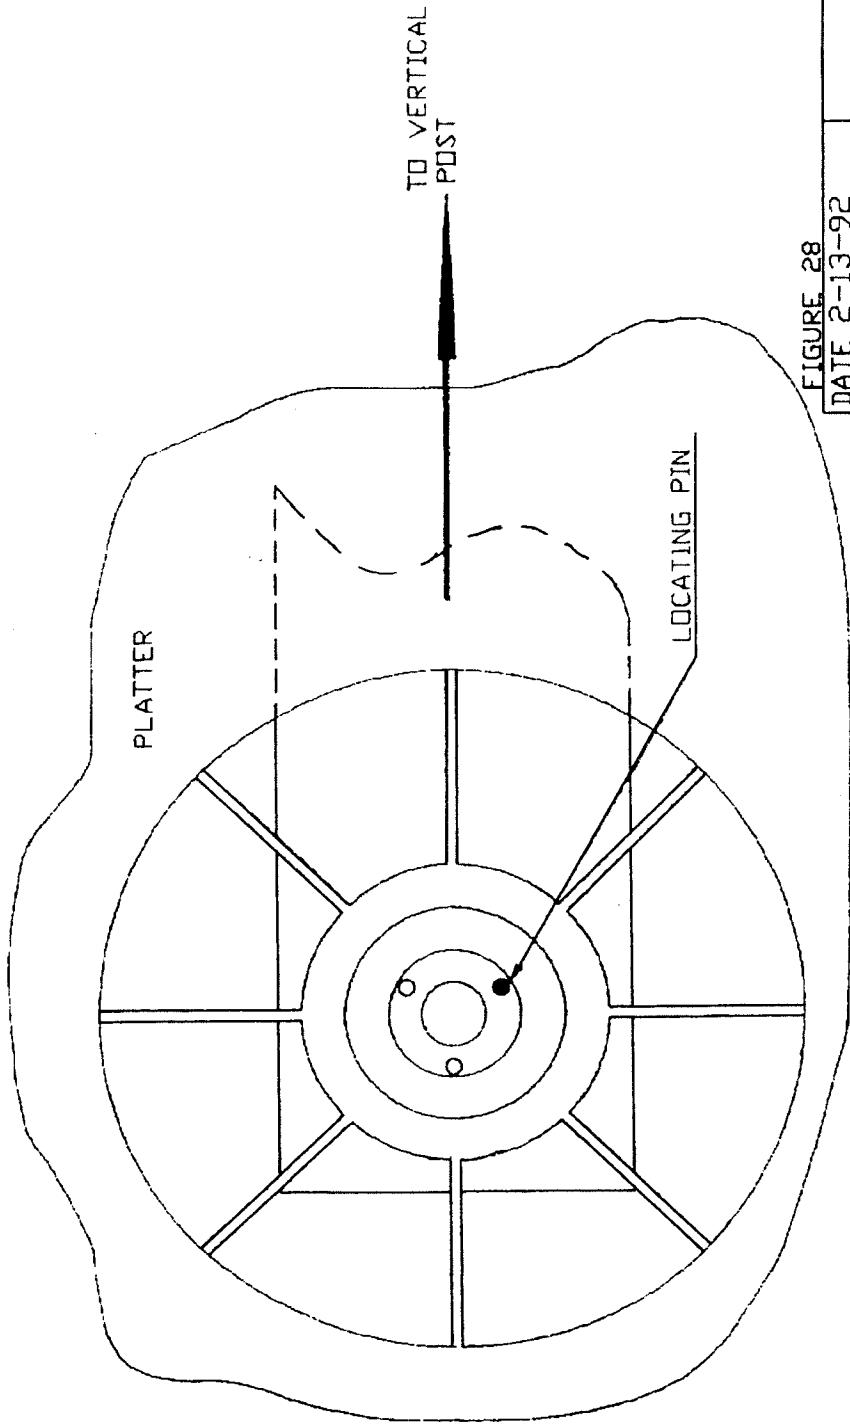

FIGURE 28
2. Each PLATTER has a LOCATING PIN for the PAYOUT CONTROL ASSEMBLY. Install the LOCATING PIN in the hole indicated on Figure 28. Tighten the LOCATING PIN with pliers but DO NOT MAR PIN.